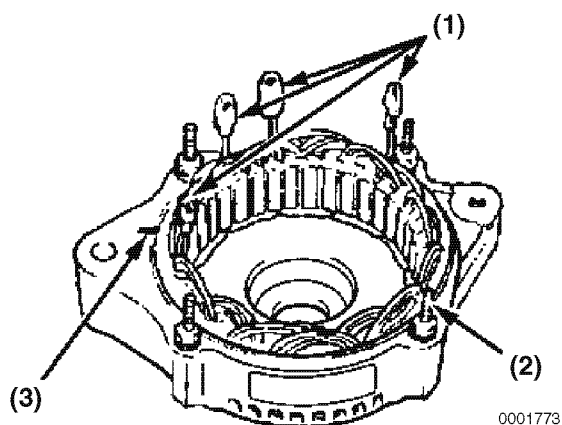

Figure 11-7
8. Before disassembling the stator from the front frame housing, scratch a positioning line (**Figure 11-7, (3)**) on the housing in alignment with the lead wire (**Figure 11-7, (1)**) positioning. Make sure that the positioning line does not deviate more than ± 0.02 in (± 0.5 mm).
If installing a new stator, align the new stator with the old stator position mark (**Figure 11-7, (3)**). Make sure that the new and old stator positioning lines do not deviate more than ± 0.02 in (± 0.5 mm).